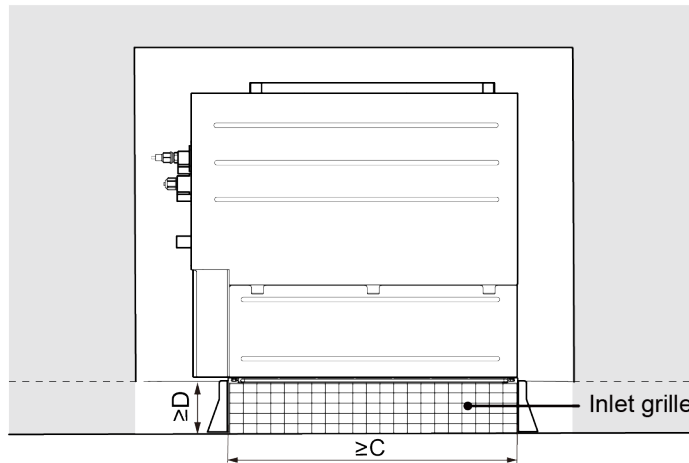

Fig.3.2.2
- (7) Installation requirements of air inlet grille is as shown in Fig.3.2.2.